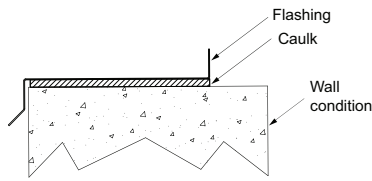

Fig. 1.1 Sill Flashing Vertical Section
3. Apply caulk to the bottom of the opening and firmly set the sill flashing in the caulk. See Figure 1.1.